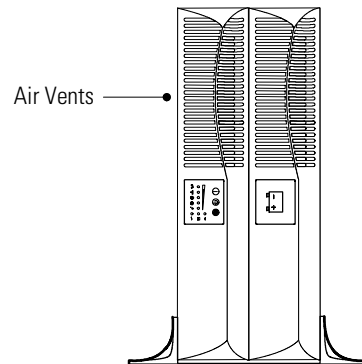
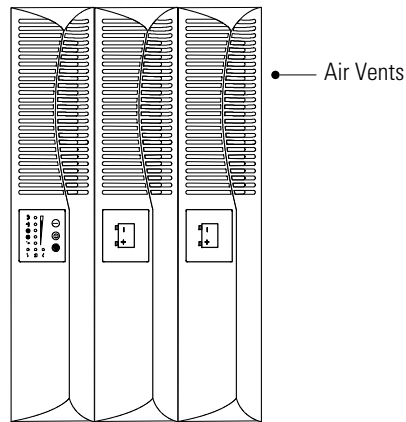

Figure 8. Pedestals with Two Cabinets
Figure 9. Tower Setup with Three Cabinets
8. Carefully position the cabinets upright with the air vents at the top (see Figure 8 or Figure 9).